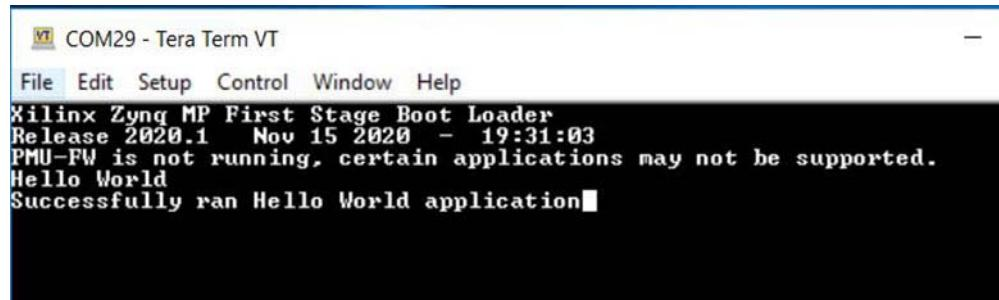

Figure 21: Verified Hello World
13. Verify that Hello World is displayed on the communication terminal (Figure 21).